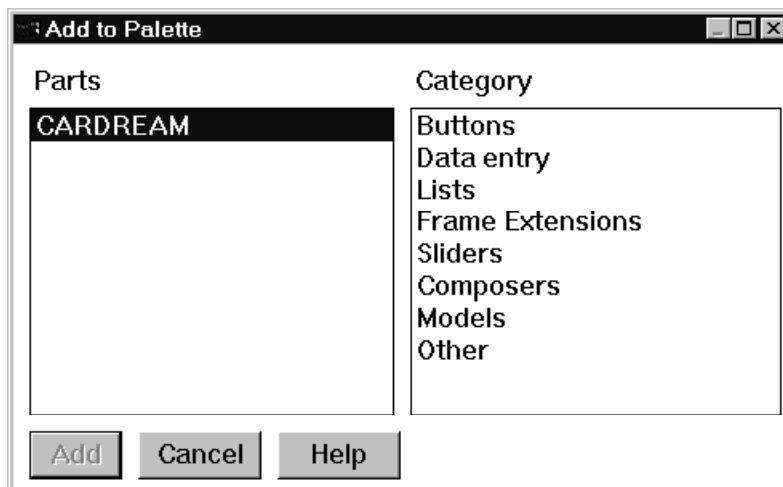

Figure 51. Add to Palette window
4. Select **Part→Add to palette**. Visual Builder displays the Add to Palette window, as shown in Figure 51.